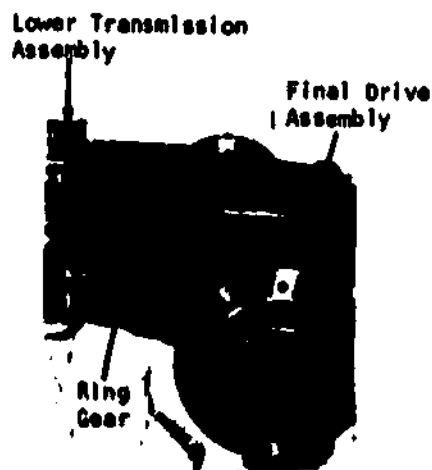

Fig 3-26. Final drive assembly.
b. **Grader.** Attached to the rear of the grader lower transmission is the final drive assembly (fig 3-26). It turns the power flow 90° just as the differential in other machines, but it does not allow one wheel to rotate while the other is being held. Wheels on both sides of the grader are receiving power when power is being transmitted through the final drive. Power is transmitted by the bevel pinion gear, which is made as part of the lower transmission shaft, being in mesh with and rotating the ring gear. The ring gear is keyed to a shaft and bull pinion; the component is called the jack shaft assembly when the ring gear and parts are assembled. The bull pinion is in mesh with and rotates a bull gear. Splined to each side of the bull gear are axle shafts which transmit the power to both tandem assemblies. The gear on the lower transmission pinion shaft and the ring gear are the spiral bevel type. This provides more tooth contact and quieter operation. The bull gear and the bull pinion are the straight spur gear type. The bull gear and the jack shaft assembly are mounted on tapered roller bearings which require adjustment. The bearing preload is adjusted by adding or removing shims on the jack shaft assembly and an adjusting nut on the bull gear assembly.